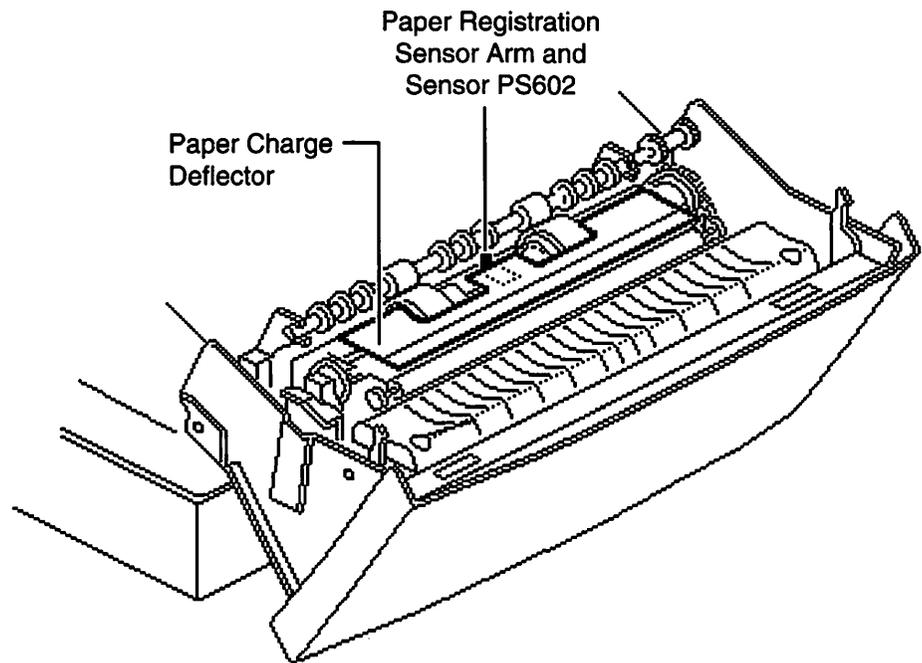

Figure 1-13
- The paper charge deflector (see Figure 1-13) guides the paper and removes any charge on the page before it passes the toner cartridge and the transfer roller.
- The paper registration sensor PS602 and sensor arm (see Figure 1-13) detect the front edge of the paper. When activated, they cause the DC controller to align the paper with the image on the photosensitive drum in the toner cartridge.